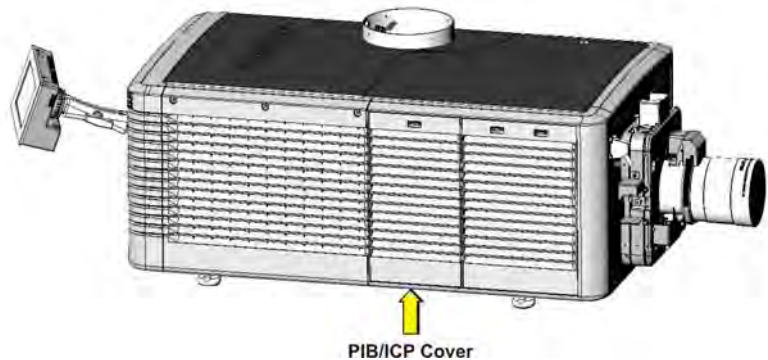

Figure 5-10 PIB/ICP Cover
1. Push down on the cover's center tab. **(Figure 5-10)**
1. Remove PIB/ICP Cover. **(Figure 5-10)**